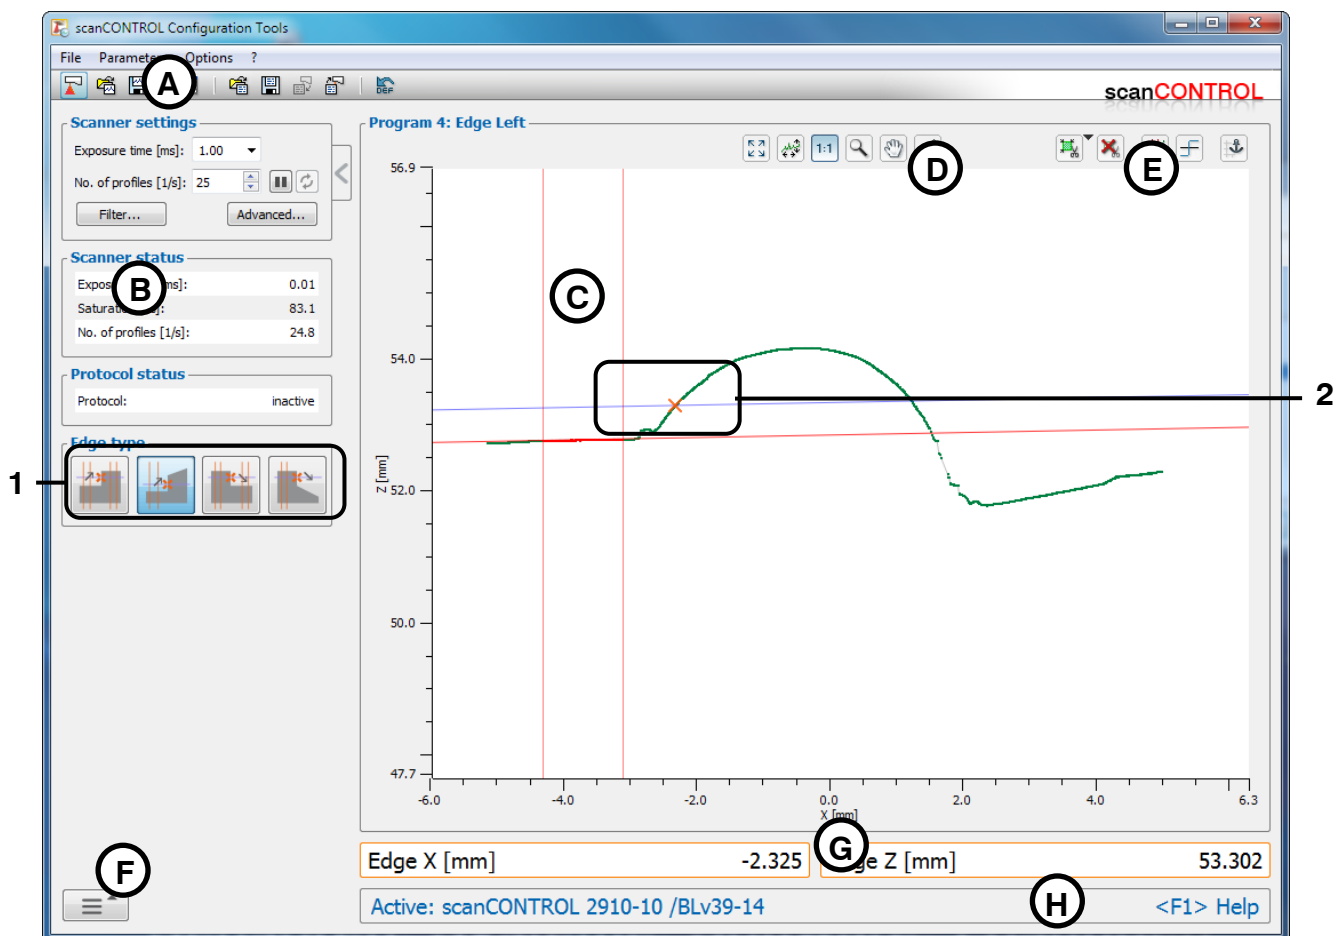

Fig. 4.18: "Edge Left" measuring program
- Define the type of the edge (see Fig. 4.18 and Chapter 3.13.1):